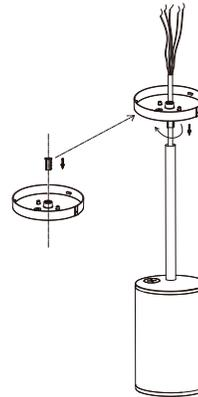

Fig 8
3. Install the hollow thread on the lamp panel. Rod and disc threaded connection. (Fig 8)